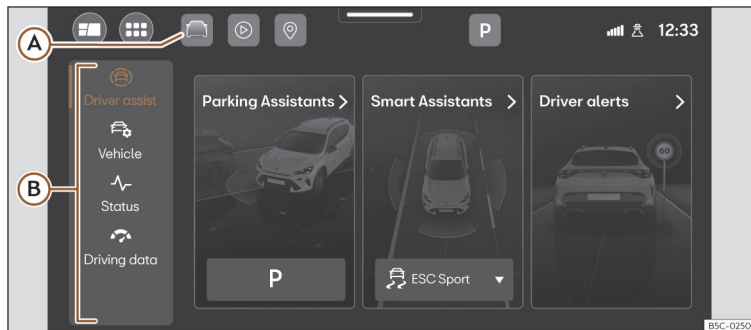

Fig. 13 Schematic representation: Assistants and vehicle settings
Press >>> **Fig. 13 (A)**, or **Vehicle settings** in the main menu to open the assistants and vehicle settings menu. Next, clicking on any of the menus located in the left area **(B)**, displays the settings menu or the selected assist systems on the display.